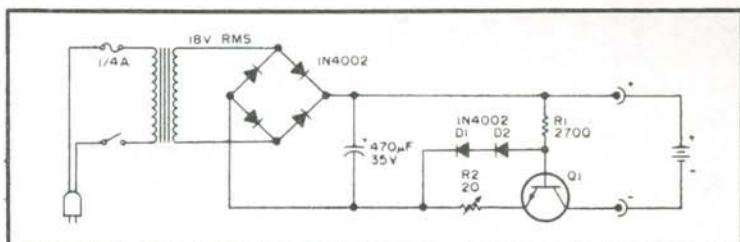

Fig. 8-8. Nicad charger.
3. When charging standard nicads (other than "Quick-Charge" units), limit the charge current to about $\frac{1}{10}$ the rated ampere-hour capacity. Excessive charge current causes overheating, which may result in seal rupture and venting of excess pressure. Once the seal is broken, the cell will rapidly dry out and become useless. Figure 8-8 is representative of a "universal" type nicad charger circuit. The transformer, rectifier, and filter capacitor are conventional design. The transformer itself is an 18 volt doorbell unit which gives a rectified dc output of 25 volts.
hams are familiar with the emitter follower circuit in Fig. 8-9. Placing the load in the collector circuit as in Fig. 8-8 allows a measure of gain and results in better current limiting action.
In Fig. 8-8, resistor R1 is used to provide forward bias to the base of Q1, bringing that transistor into conduction. With no collector load (batteries) in the circuit, the emitter current is very low. Thus the resulting voltage drop across the base-emitter junction and R2 is not adequate to forward bias the two diodes, D1 and D2. This leaves the transistor in a full-on state with the whole supply voltage present at the output terminals.